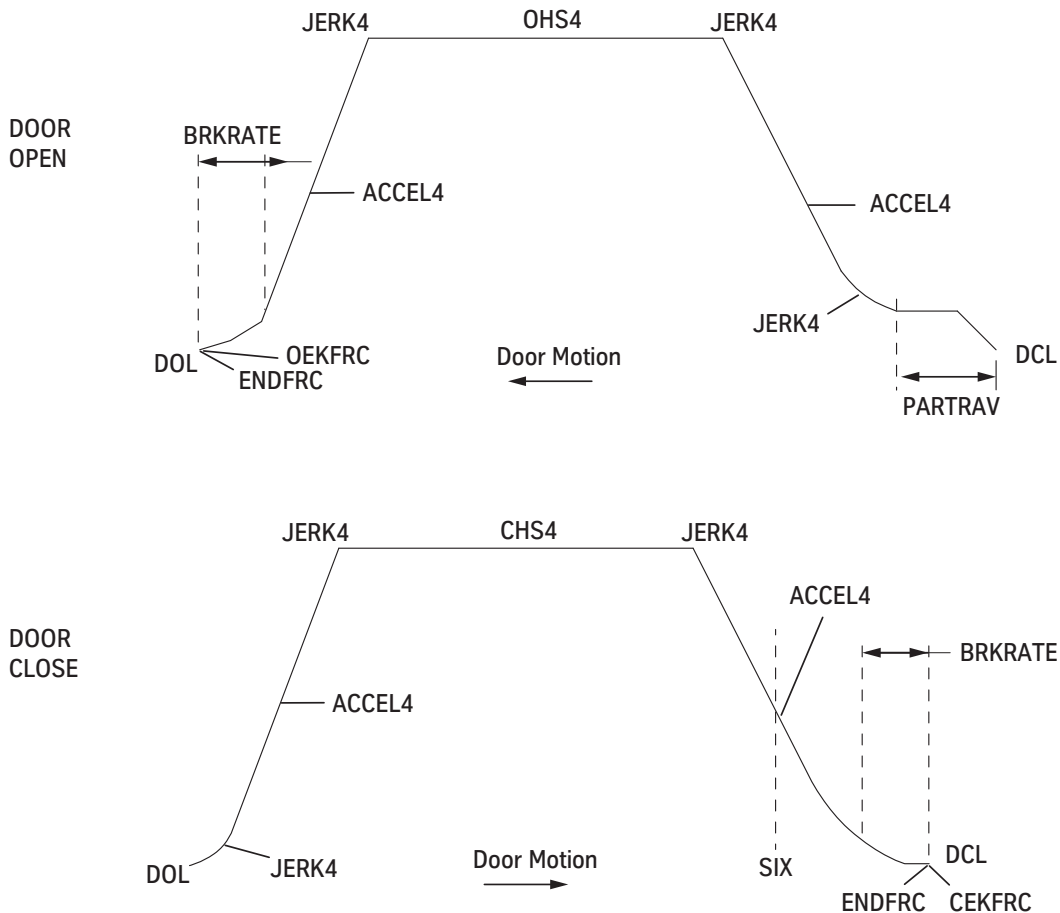

Figure 59 - Speed Pattern S-Curve
2. Begin with Speed Pattern 4 at default settings, and observe door operation. See Figure 59 below and Table 3 on page 71.